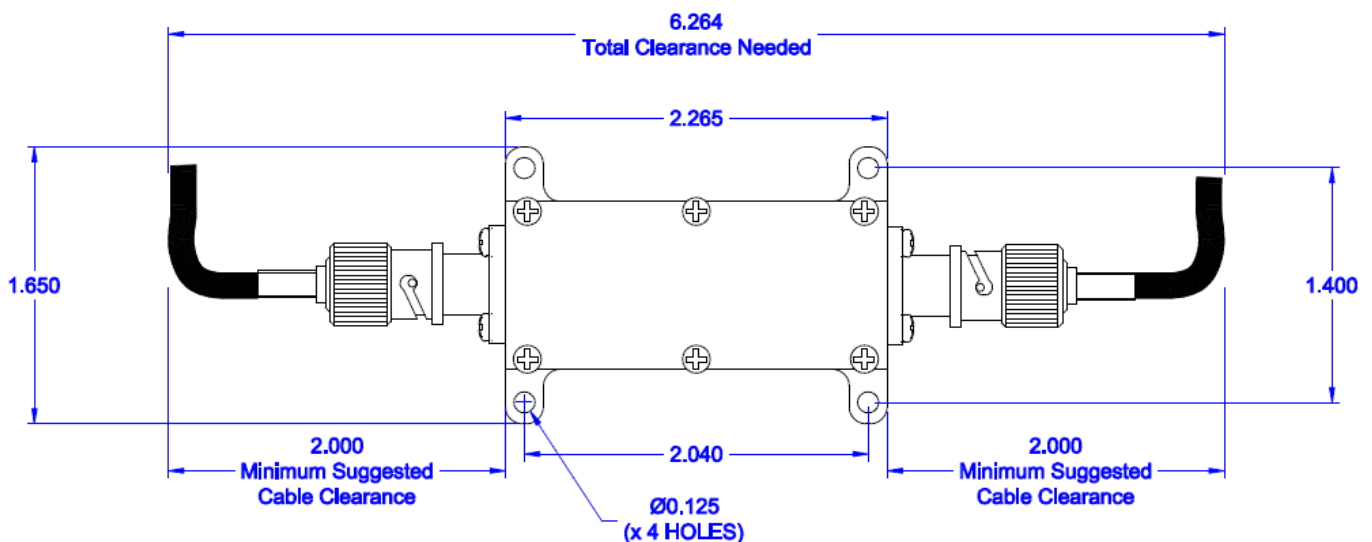

Figure 1 - HPF-136 Installation Footprint
1. The HPF-136 (P/N: 133956-1) VHF High Pass Filter must be installed on either the rotorcraft's secondary or tertiary structure, in a location close to its applicable FM antenna. If required, fabricate a mounting plate or bracket(s), to match the chosen installation location. The footprint of the HPF-136 is provided below in Figure 1 for reference.